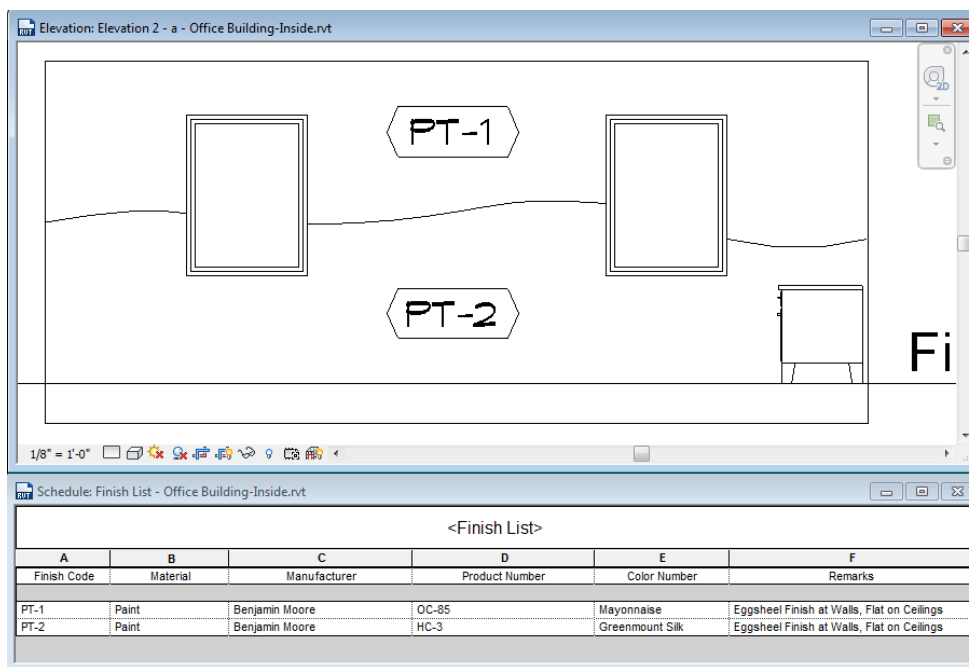

Figure 7
8. In the project, place a few instances of the Symbol. When you first load it into the project, the tool will already be active. You can cancel the command if you are not in the correct view. To get back to the command, remember, a Generic Annotation Family is actually a Symbol. On the Annotate tab, click the **Symbol** tool. Use the Detail Line tool to draw any finish boundaries as required (see the top of Figure 7).
13. In the "Note Block Properties" dialog, add all the fields. On the Sorting/Grouping tab, you can uncheck the "Itemize every instance" checkbox and you will end up with only one entry for each unique value. For example, if you want PT-1, PT-2 and PT-3 to each be listed only once, uncheck this box. Further, setting it up this way allows you to easily edit the other fields associated with PT-1 directly in the Schedule rather than having to edit them individually in the project views (see the bottom of Figure 7).